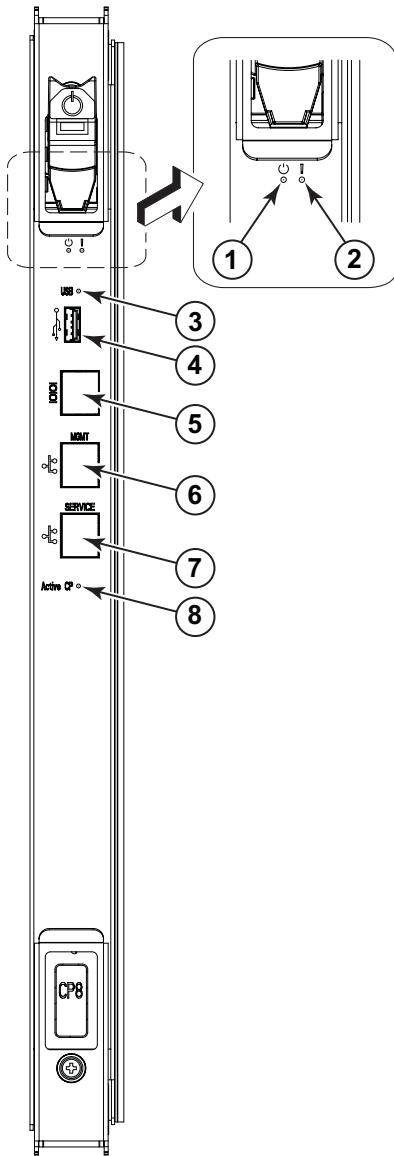

Figure 11. Control processor blade (CP8) LEDs
1. Check the LED indicators on the CP blade (see Figure 11 on page 34). The LED patterns may temporarily change during POST and other diagnostic tests. For information about how to interpret the LED patterns, see Table 9 on page 34.
Figure 11 on page 34 identifies the control processor blade (CP8).